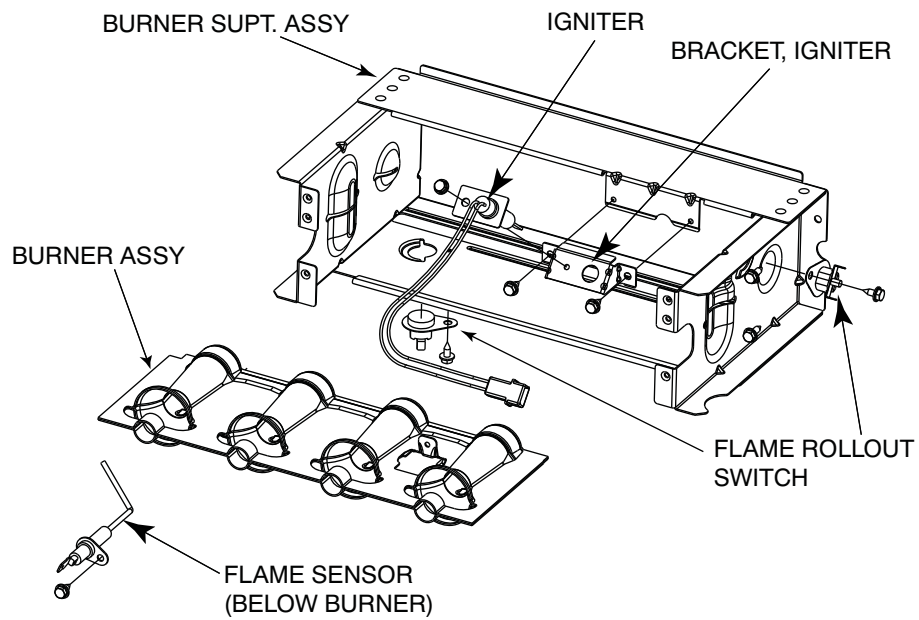

Fig. 72 – Burner Assembly
6. Remove screws attaching burner assembly to cell panel. See Fig. 72.